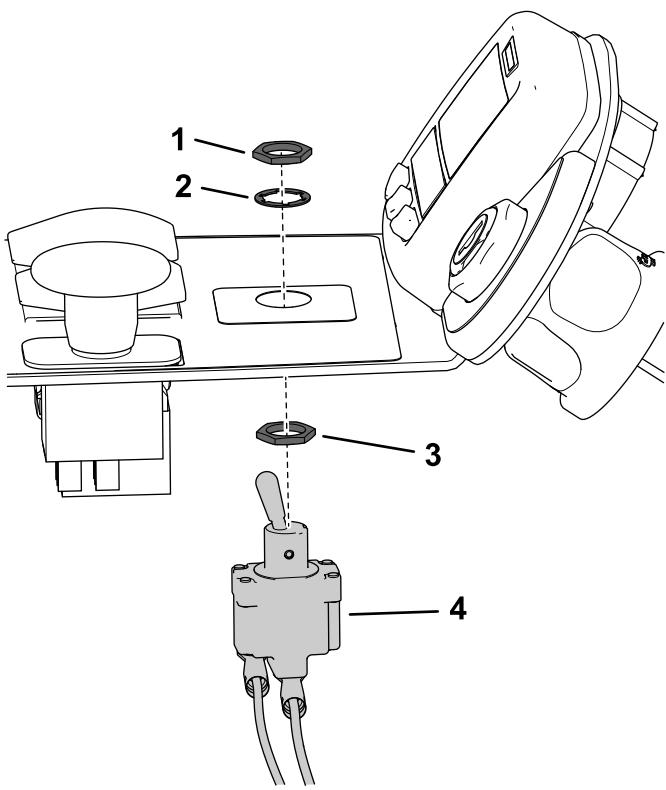

Figure 21
- Install the toggle switch into the 13 mm (1/2 inch) hole from the bottom of the console; refer to Figure 21 for the correct hex locknut and washer orientation.